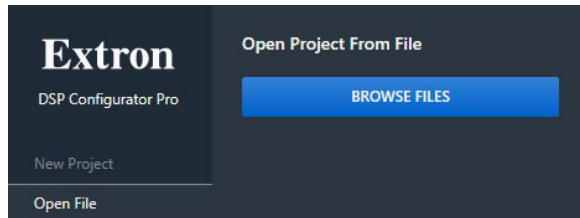

Figure 23. Connect TCP/IP Panel
2. Select the **Open File** tab and click **BROWSE FILES** (see figure 23). The Open Configuration File... box opens.